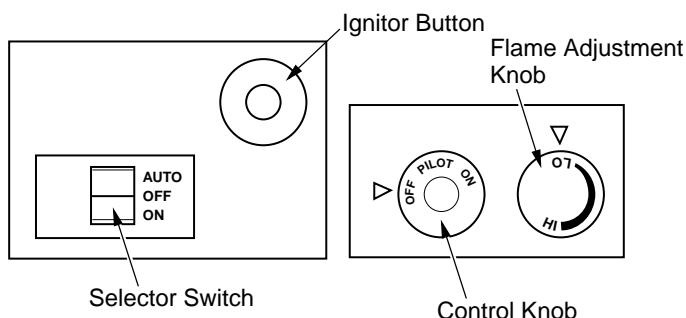

Figure 32 - Control Knob and Ignitor Button Location (Shown as Supplied, No Control Options)
5. Wait five (5) minutes to clear out any gas. Then smell for gas, including near the floor. If you smell gas, STOP! Follow "B" in the safety information, column 1. If you don't smell gas, go to the next step.
6. Press in and turn control knob counterclockwise  to the PILOT position. Press in control knob for five (5) seconds (see Figure 32).